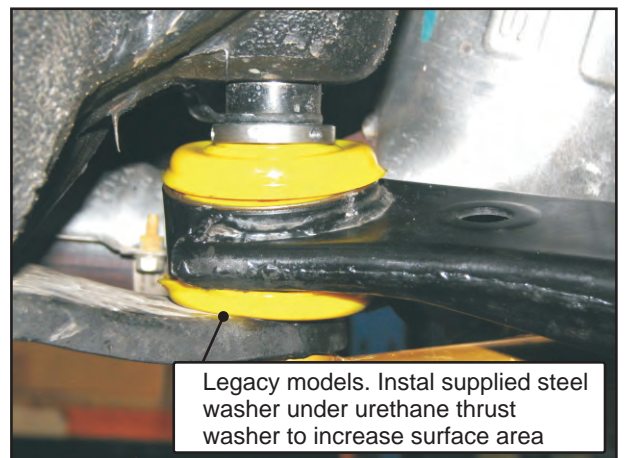

Fig 3 - right-hand control arm, outside view.
7. Complete the assemblies using new eccentric crush tubes with the adjusting wheel positioned above the centre bush and the thrust washers positioned on top and bottom of the centre bush, as shown in Fig 3.